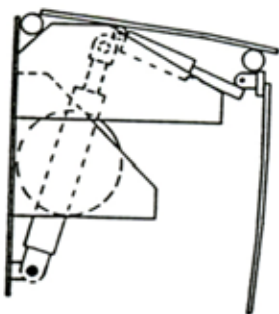
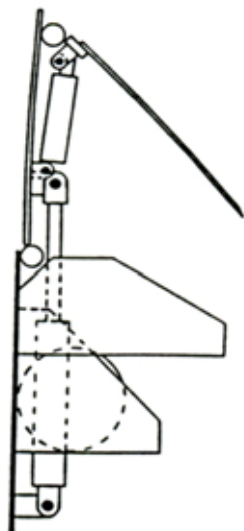

Figure 1
Figure 2
1. Always remove any end load while leveler is in stored position. (Figure 1).
4. To remove leveler from transport vehicle before departure, operate leveler "RAISE" (A) button until lip clears transport vehicle bed, folds up and returns, (Figure 2) then release button. Leveler will then return to stored position (Figure 1).